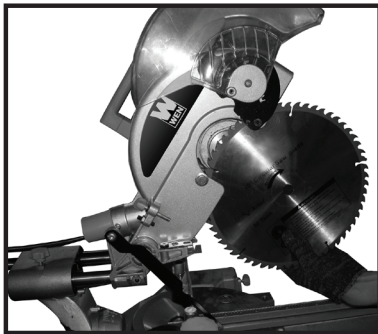

Figure 6
8. Reinstall a new Blade on the Arbor. (See Figure 6.) Be sure to match the direction marked on the new blade with the direction marked on the saw Blade Housing.